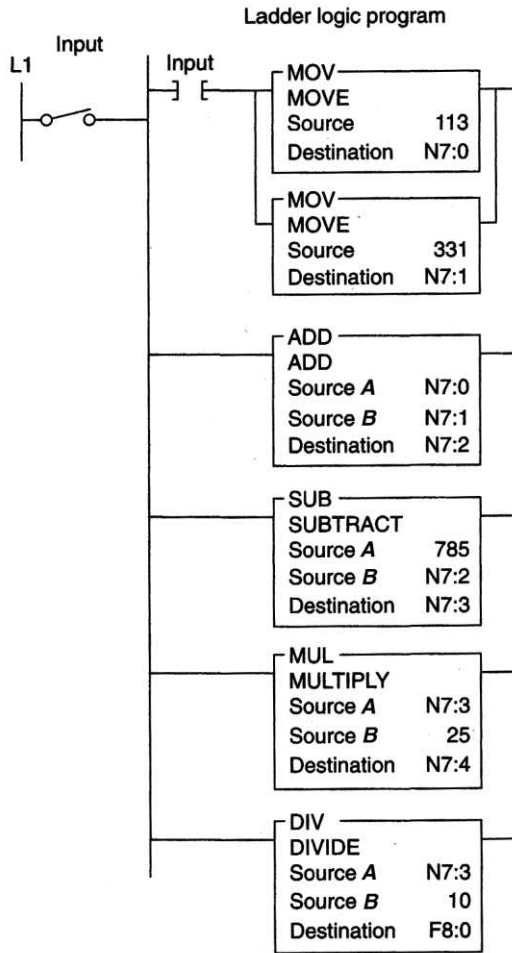

Figure 11-26 Program for question 21.
21. With reference to the program of Figure 11-26, when the input goes true, determine the value that will be stored in each of the following words.